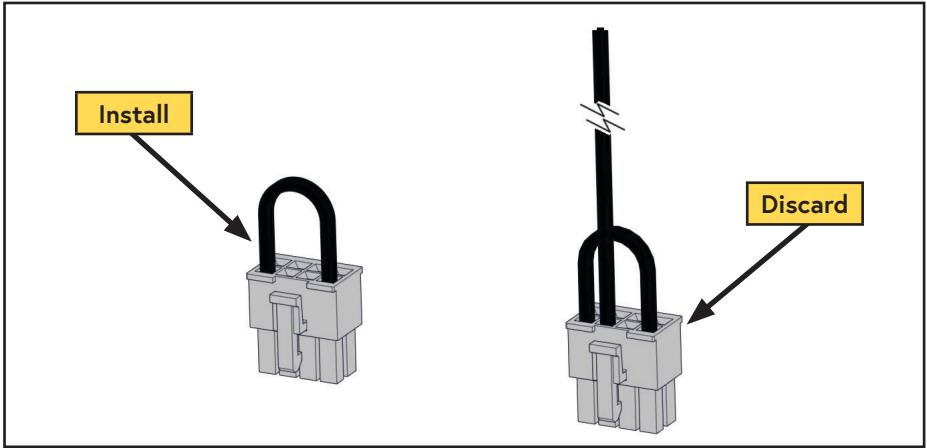

Figure 52 — Electronic park brake 8 pin connector
- Install the 8 pin connector with the jumper wire into the DTC. Discard the other connector as it will not be used (Figure 52).